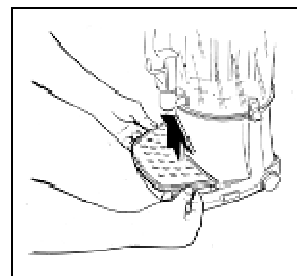

Fig. 13
- **T**o remove the drip tray (P) lift up it and pull it in the direction of the arrows as shown in fig. 13.